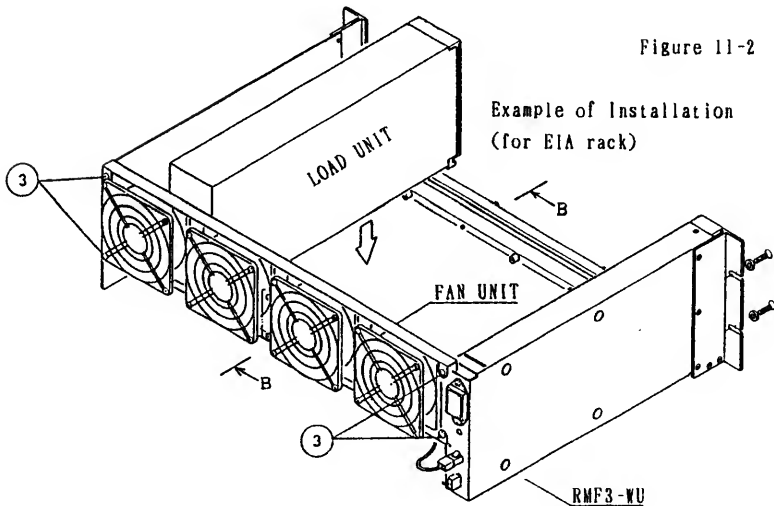

Figure 11-2
2. Figure 11-2 shows only an example of installation of PLZ50WU. PLZ150WU and PLZ300WU also can be installed in the same manner. Any combination of PLZ50WU, PLZ150WU and PLZ300WU also can be installed.